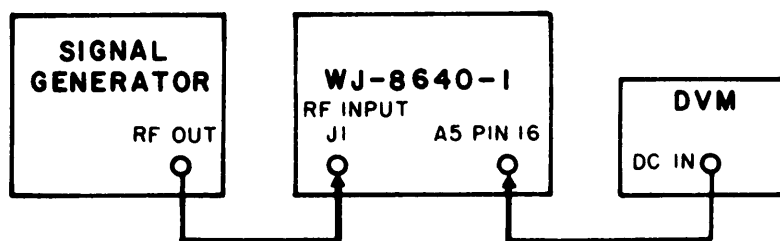

Figure 4-11. Test Setup, AGC/Squelch (A5) Alignment
- (1) Construct the circuit as shown in Figure 4-11.
- (2) Set Receiver controls as follows: GAIN-AGC, MODE-AM, BAND-LOW (within Tuner's range) , BANDWIDTH- 10 kHz .
- (3) Using the 22-pin extender card, extend the AGC/SQUELCH card (A5).